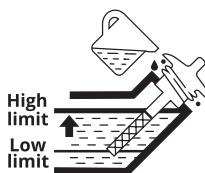

Fig. 1
1. Unscrew the oil dipstick (fig. 1) and wipe it out with a clean cloth.